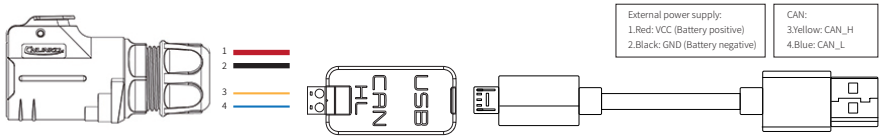

Figure 3.4 CAN connection diagram
- Connect the CAN_TO_USB to the usb point of the notebook. The connection diagram is shown in Figure 3.4.